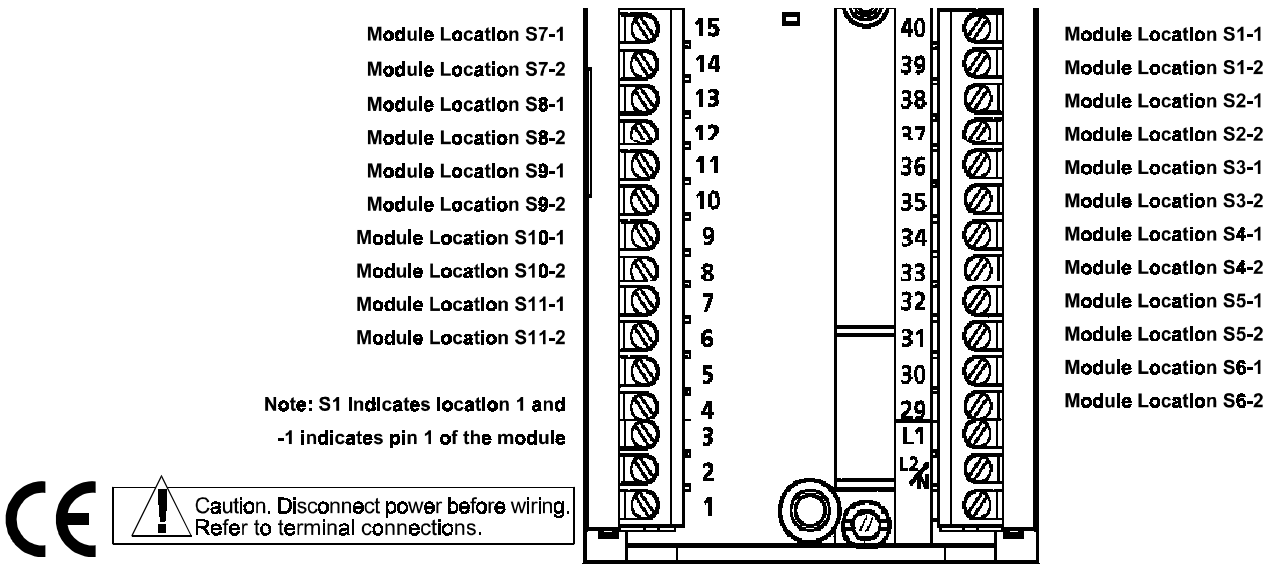

Figure 4-1. Terminal Identifications for Modular I/O
The wiring connections described in this section are made with the controller installed in its operating location and with the power off. All connection terminals are located under a cover on the back of the instrument housing. Figure 4-1 shows the modular connection terminals with the cover removed.
1. The diagrams for single width modules show connections to a sample location (usually location 1). The terminal numbers for the actual location being used must be determined by matching pin numbers 1 and 2 in each diagram to the terminal numbers for the selected location as shown in Figure 4-1.